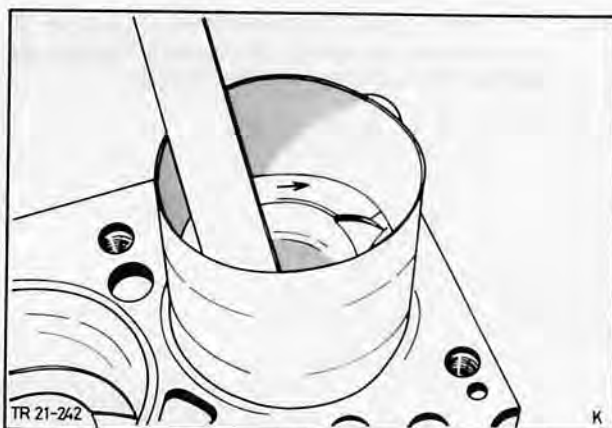

Fig. 62. Fit piston using a ring compressor
50. Compress piston rings with a standard tool (ring compressor), Fig. 62. Slide piston into cylinder using a hammer handle, guiding connecting rod on to big end journal by hand.